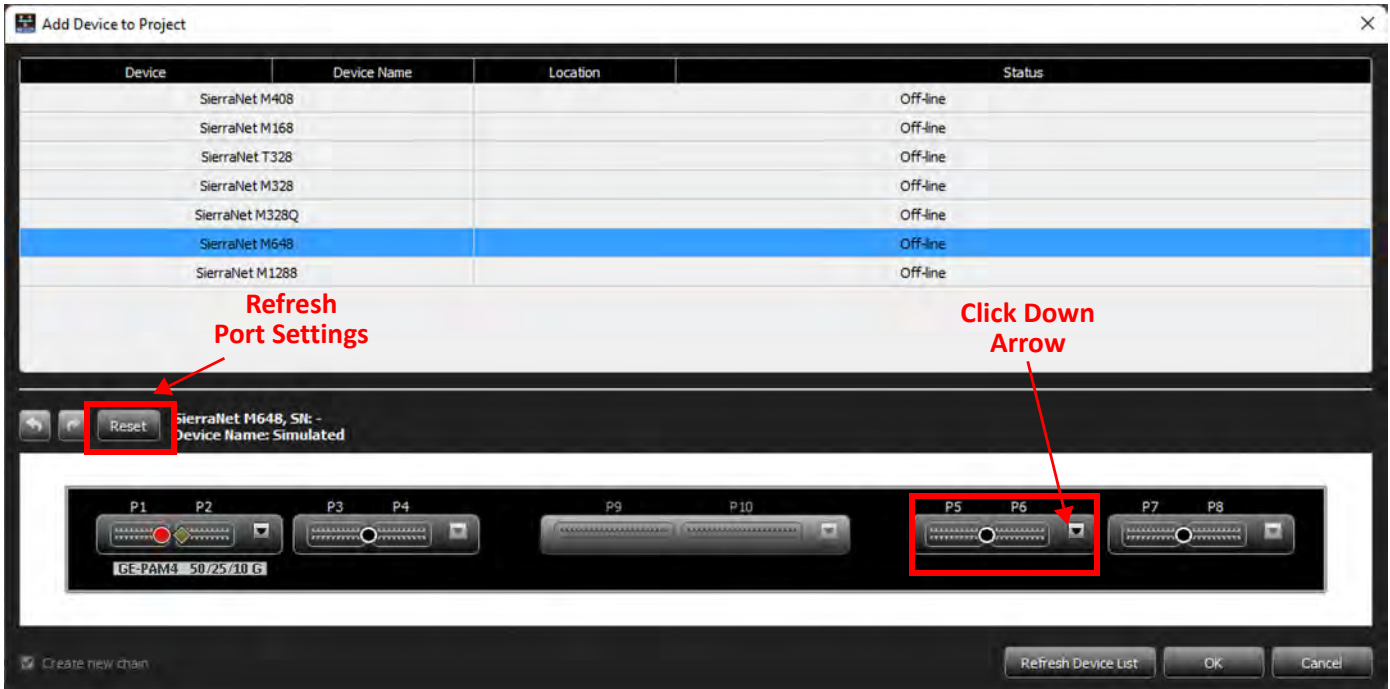

Figure 9.4: M648 Port Pairs
- b. Click the down arrow for P5/P6 (as shown in the example) to open the drop-down menu (Figure 9.4).